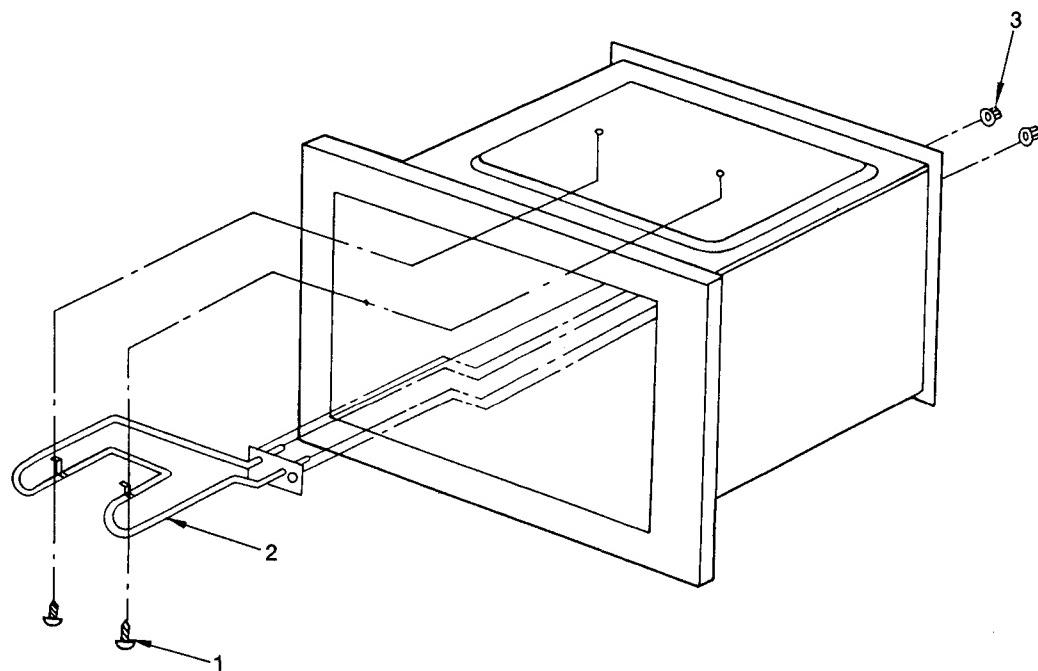

Fig. 17
5. Heater Assembly Removal (Refer to Fig. 17)